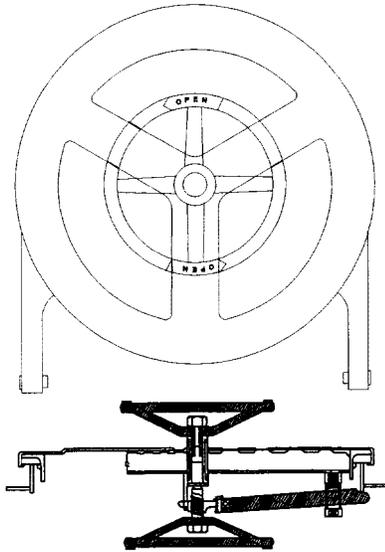

Figure 1-6. Raised Watertight Scuttle
- f. Raised Watertight Scuttles. (See figure 1-6.) These scuttles are installed in interior and exterior areas, and are offset in a corner out of high traffic zones where rapid access/egress is required. These scuttles may be used as an alternate access to manned or unmanned spaces, machinery spaces, or storerooms.